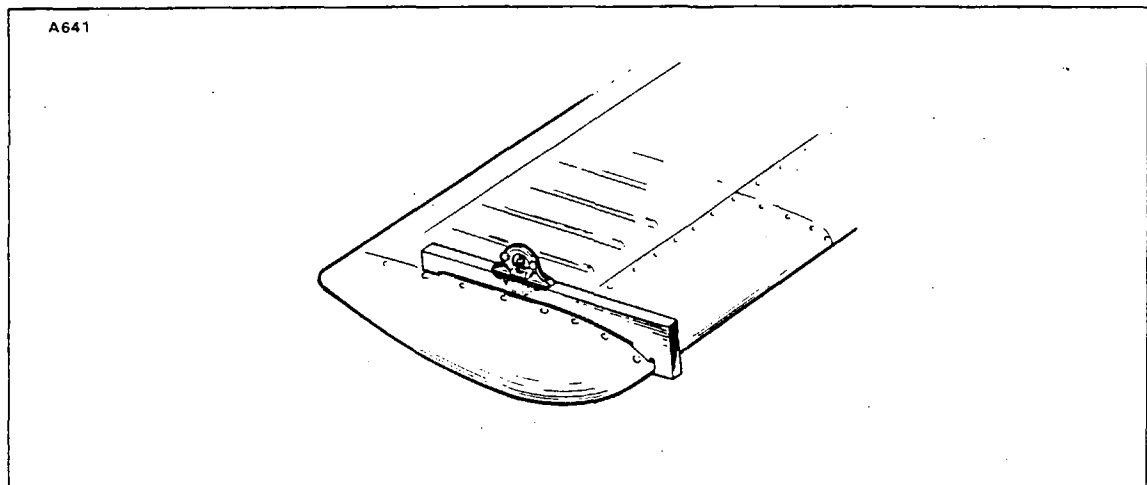

Figure 5-6. Stabilator Rigging Tool
2. Place the stabilator in neutral position. Neutral position is obtained when a level placed on stabilator rigging tool (Figure 5-6) indicates that stabilator is parallel with leveling holes noted in Figure 2-6.
3. Check the stabilator travel by placing a rigging tool on the upper surface of the stabilator as shown in Figure 5-6. (This tool may be fabricated from dimensions given in Figure 5-20.)